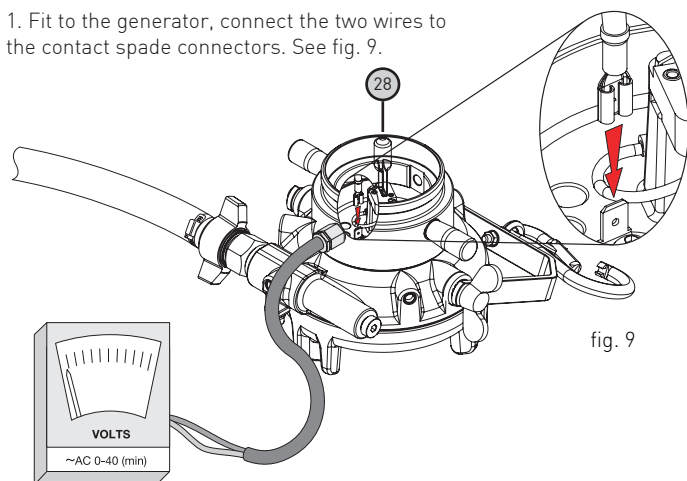

fig. 9
1. Fit to the generator, connect the two wires to the contact spade connectors. See fig. 9.